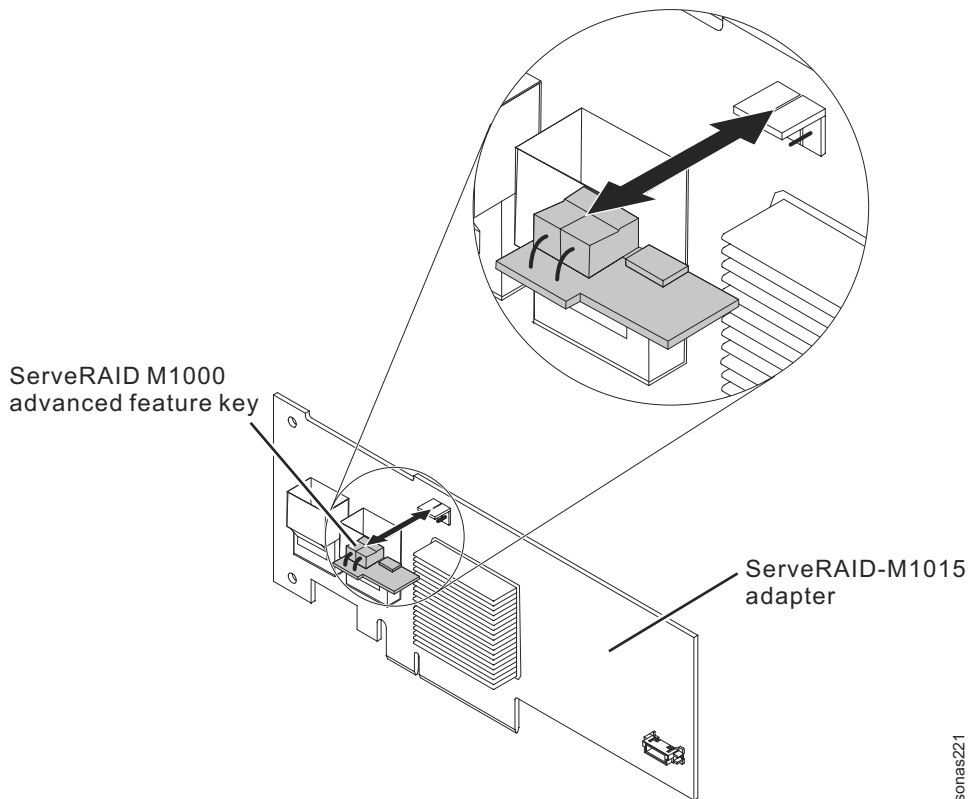
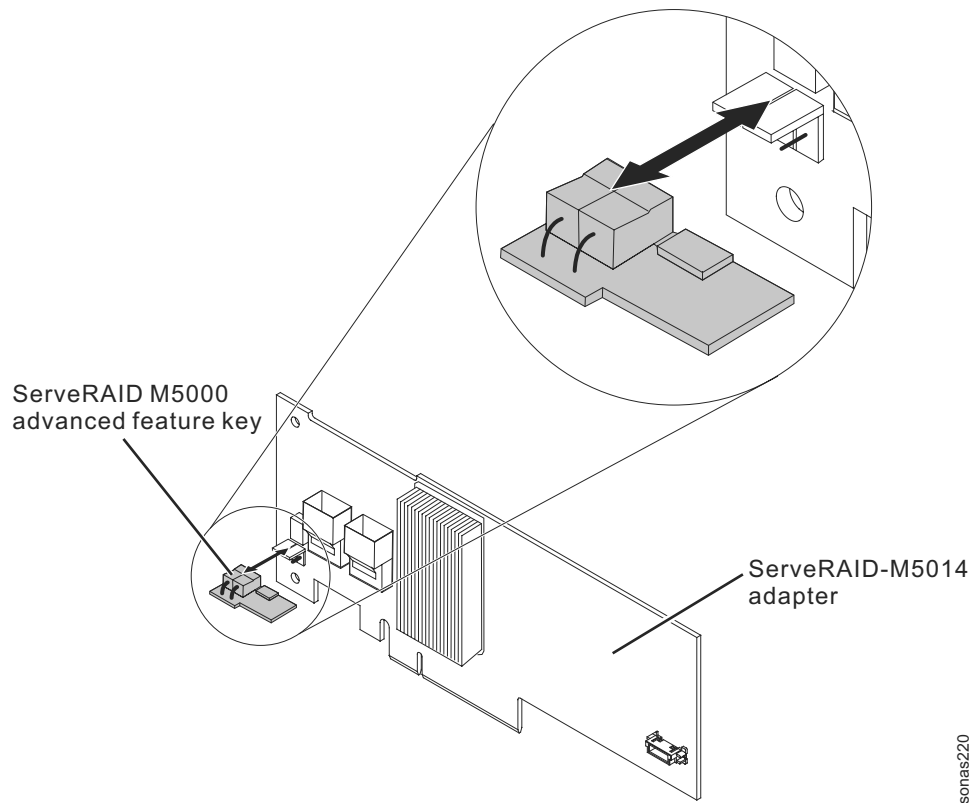

Figure 29. ServeRAID M1000 advanced feature key and M1015 adapter
Figure 30. ServeRAID M5000 advanced feature key and M5014 adapter
- Grasp the feature key and lift to remove it from the connector on the ServeRAID adapter. See Figure 29 and Figure 30 on page 115.